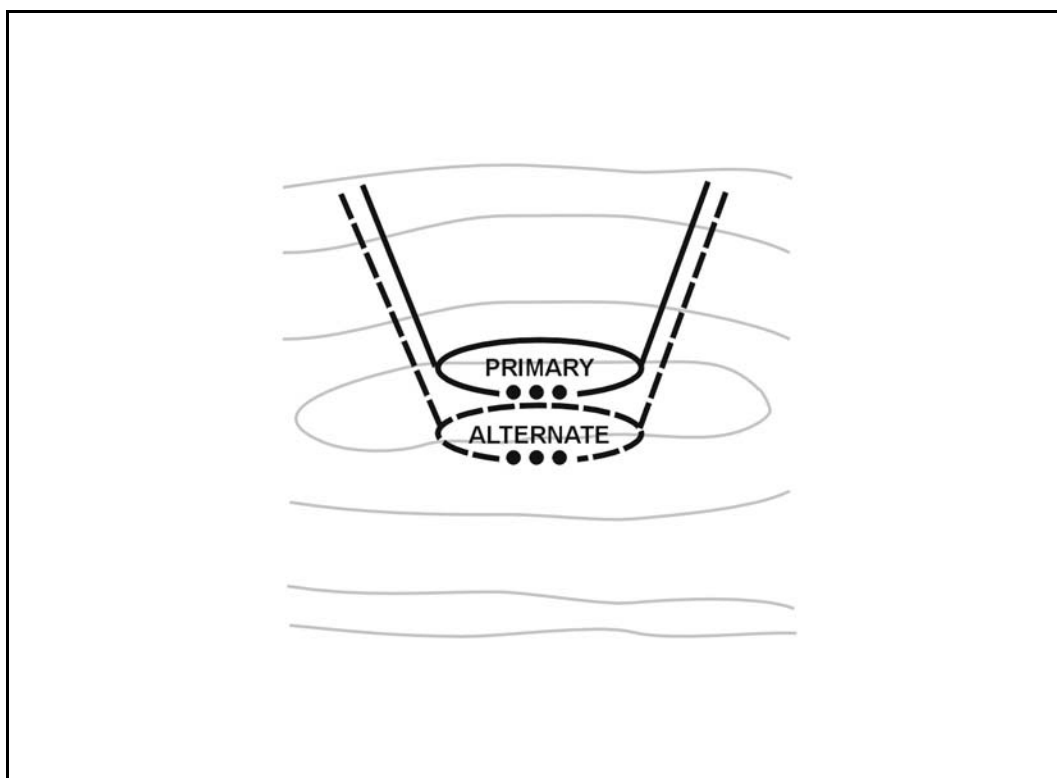

Figure D-1. Primary and alternate position.
a. **Primary Position.** The initial firing position from which an antiarmor squad covers an assigned sector of fire or portion of an engagement area along an enemy's most likely avenue of approach is referred to as the squad's primary position (Figure D-1) and is the best position for engaging enemy vehicles. The company commander or platoon leader usually designates the general location of this position.
b. **Alternate Position.** An antiarmor squad's alternate position (Figure D-1) must be able to cover the same enemy avenue of approach or sector of fire as from the primary position. The company commander or platoon leader designates the locations of alternate positions to be used when primary positions become untenable or unsuitable for the assigned